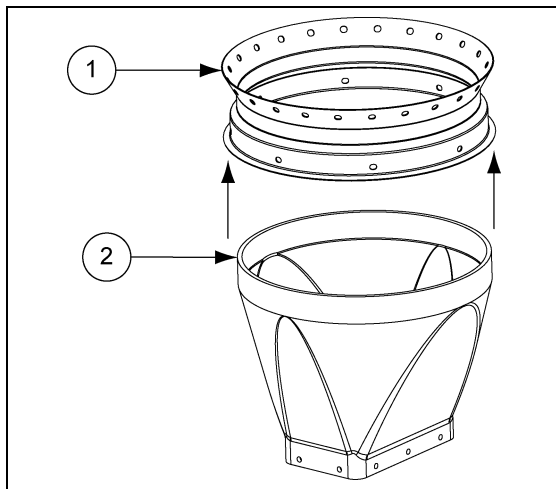
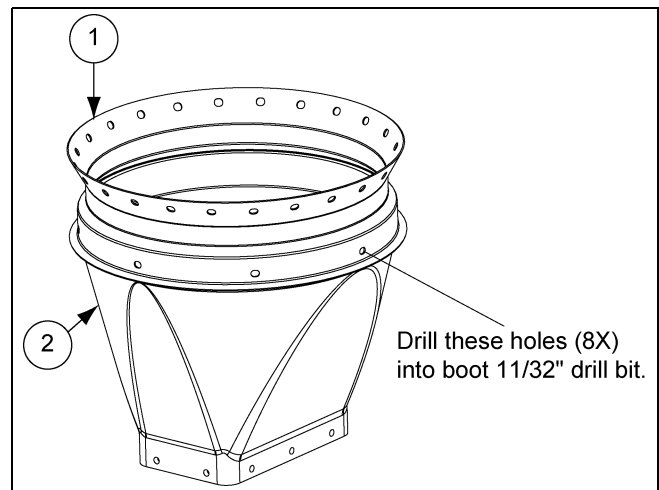

Figure 5A
Figure 5B
Slide the boot as far as possible into the tank collar or the Sure-Flo Feed Flow Control opening. (See Figure 5A.) Align the boot with the Flex-Flo System that will be installed. Using the holes in the collars for guides, drill eight (8) 11/32" holes into the boot rim. (See Figure 5B.)